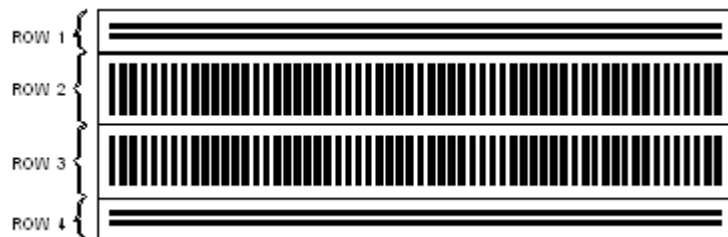

Figure 3. Solderless breadboard
You have already seen one protoboard configuration in the Lab 1 simulation. The solderless breadboard, or prototyping board, is a white plastic device with holes that are connected together in a specific pattern. These connections function as wires by providing continuity between components in the circuit as follows. Circuit components are placed in the breadboard by inserting their wires or “leads” into the holes on the breadboard. Since the holes are connected together in a specific pattern, many components can be connected together without any additional wiring. The typical hole-to-hole connection patterns for most of the solderless breadboards used in the Glennan Laboratory are shown in Figure 3. Note that some breadboards may differ slightly. If you have any questions ask a TA or use your DMM to determine the continuity pattern of your protoboard.
The heavy lines in (Figure 3) indicate electrical connections or continuity. In rows 2 and 3, the heavy lines run from top to bottom; this indicates vertical continuity. In rows 1 and 4, the heavy lines that are connected by the light and dark horizontal lines indicate horizontal continuity. The horizontally connected holes are generally used for power and for ground connections while the vertically connected holes are usually used for general-purpose circuit connections. The spacing between the holes is standardized so integrated circuit (IC) components will fit nicely into the breadboard. Resistors and other components with flexible wire leads also fit nicely into the breadboard.